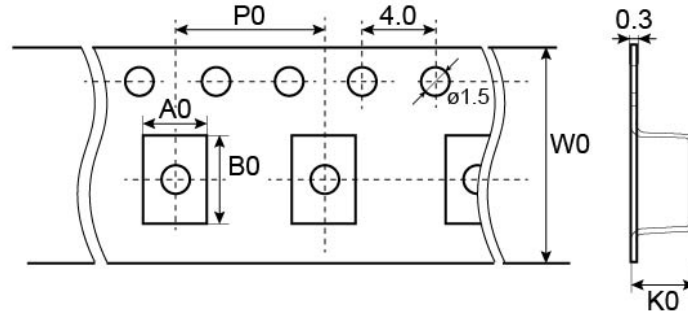

Figure 7 - Tape drawing
- (1) Other film frame carrier are possible on request
- (2) Au = TiWAu (0.3µm) / Au (3µm)
- (3) Refer to Figure 7
- (4) missing capacitors can reach 0.5%